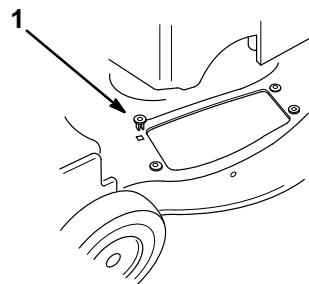

Figure 3
5. Install four grommets supplied with the grass catcher into the four square holes in the mower (Fig. 3).